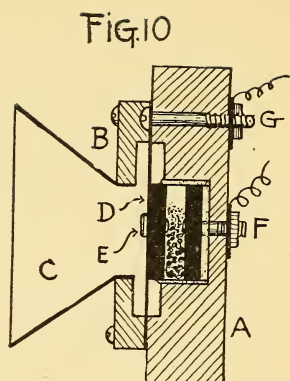

FIG. 10
In Fig. 10 an interior section is shown, which when once understood will be found extremely simple. The block (A) is of pine, white-wood, birch, or cherry, and is two inches and three-quarters square and five-eighths or three-quarters of an inch thick. A hole seven-eighths of an inch in diameter is bored in the centre of this block, half an inch deep, and a path is cut at the face of the block one inch and a half in diameter and one-eighth of an inch deep. Be careful to cut these holes accurately and smoothly, and if it is not possible to do so, it would be well to have them put in a lathe and turned out.